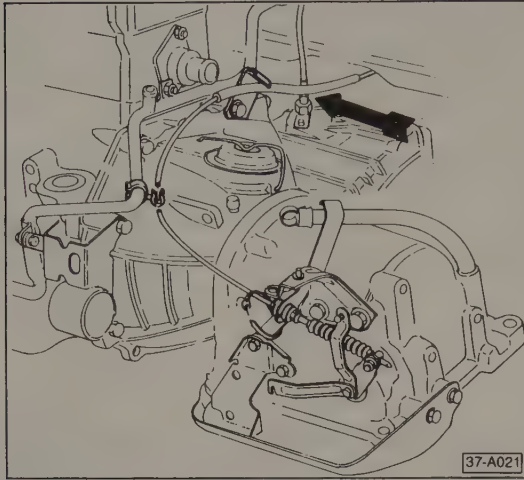

Fig. 4-3. Correct installation of selector lever cable, routed to outside of speedometer cable (arrow).
5. Installation of the cable is the reverse of removal. Torque the selector support mounting bolts to 23 Nm (17 ft. lb.). Make sure the selector cable is routed correctly around the speedometer cable, or it may bind and jam the lever. See Fig. 4-3.